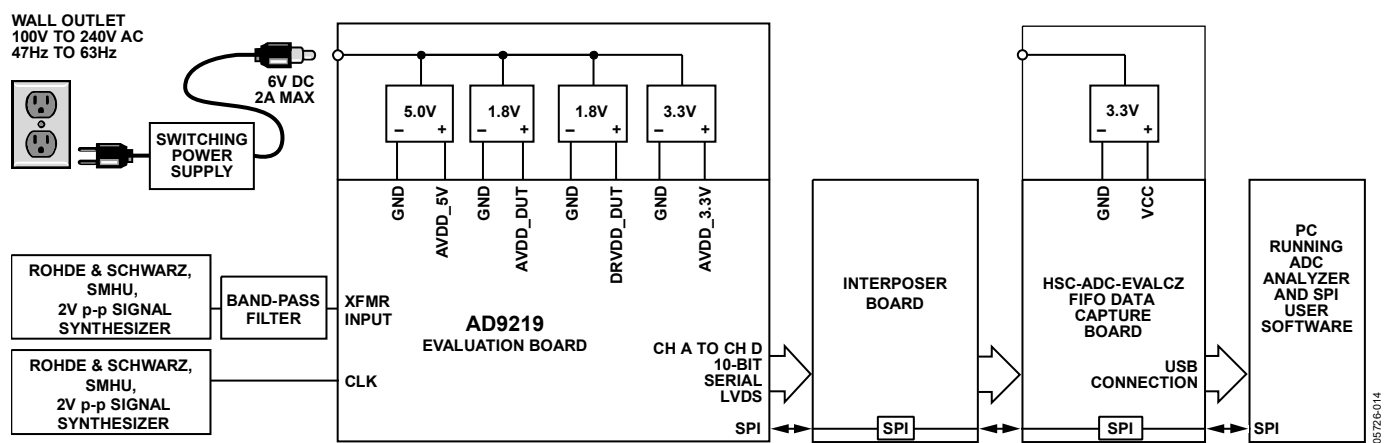
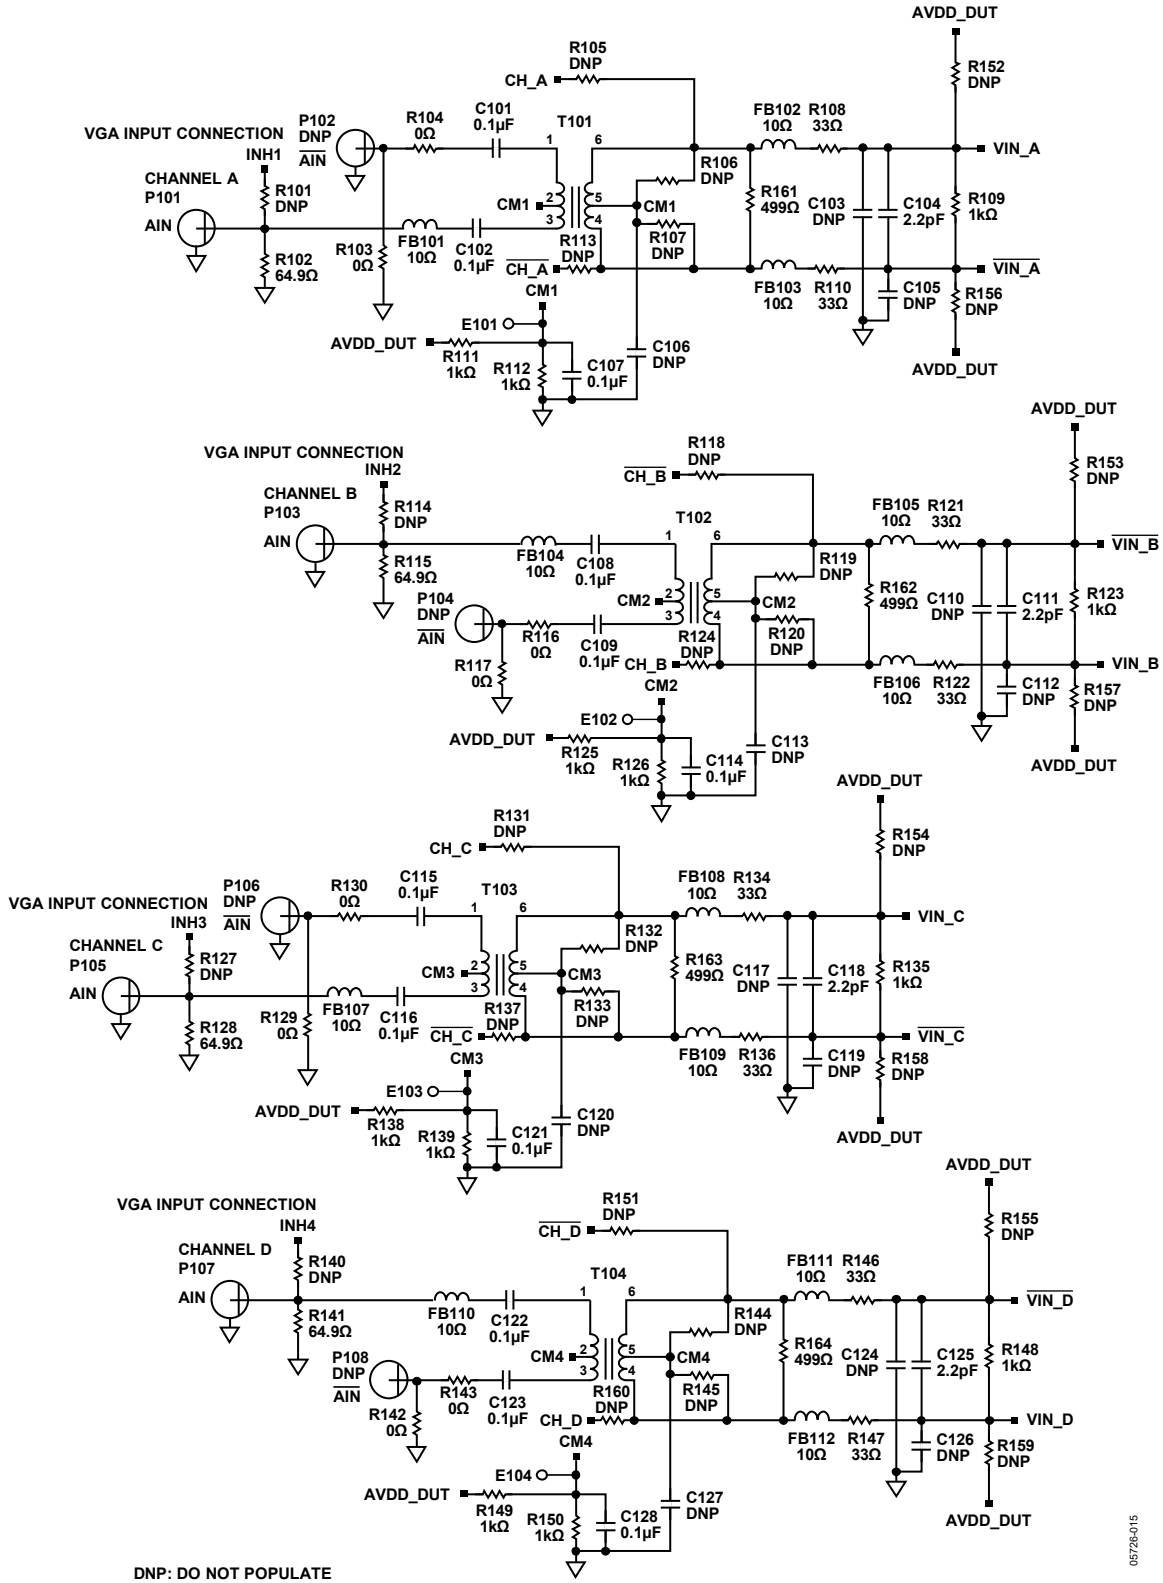
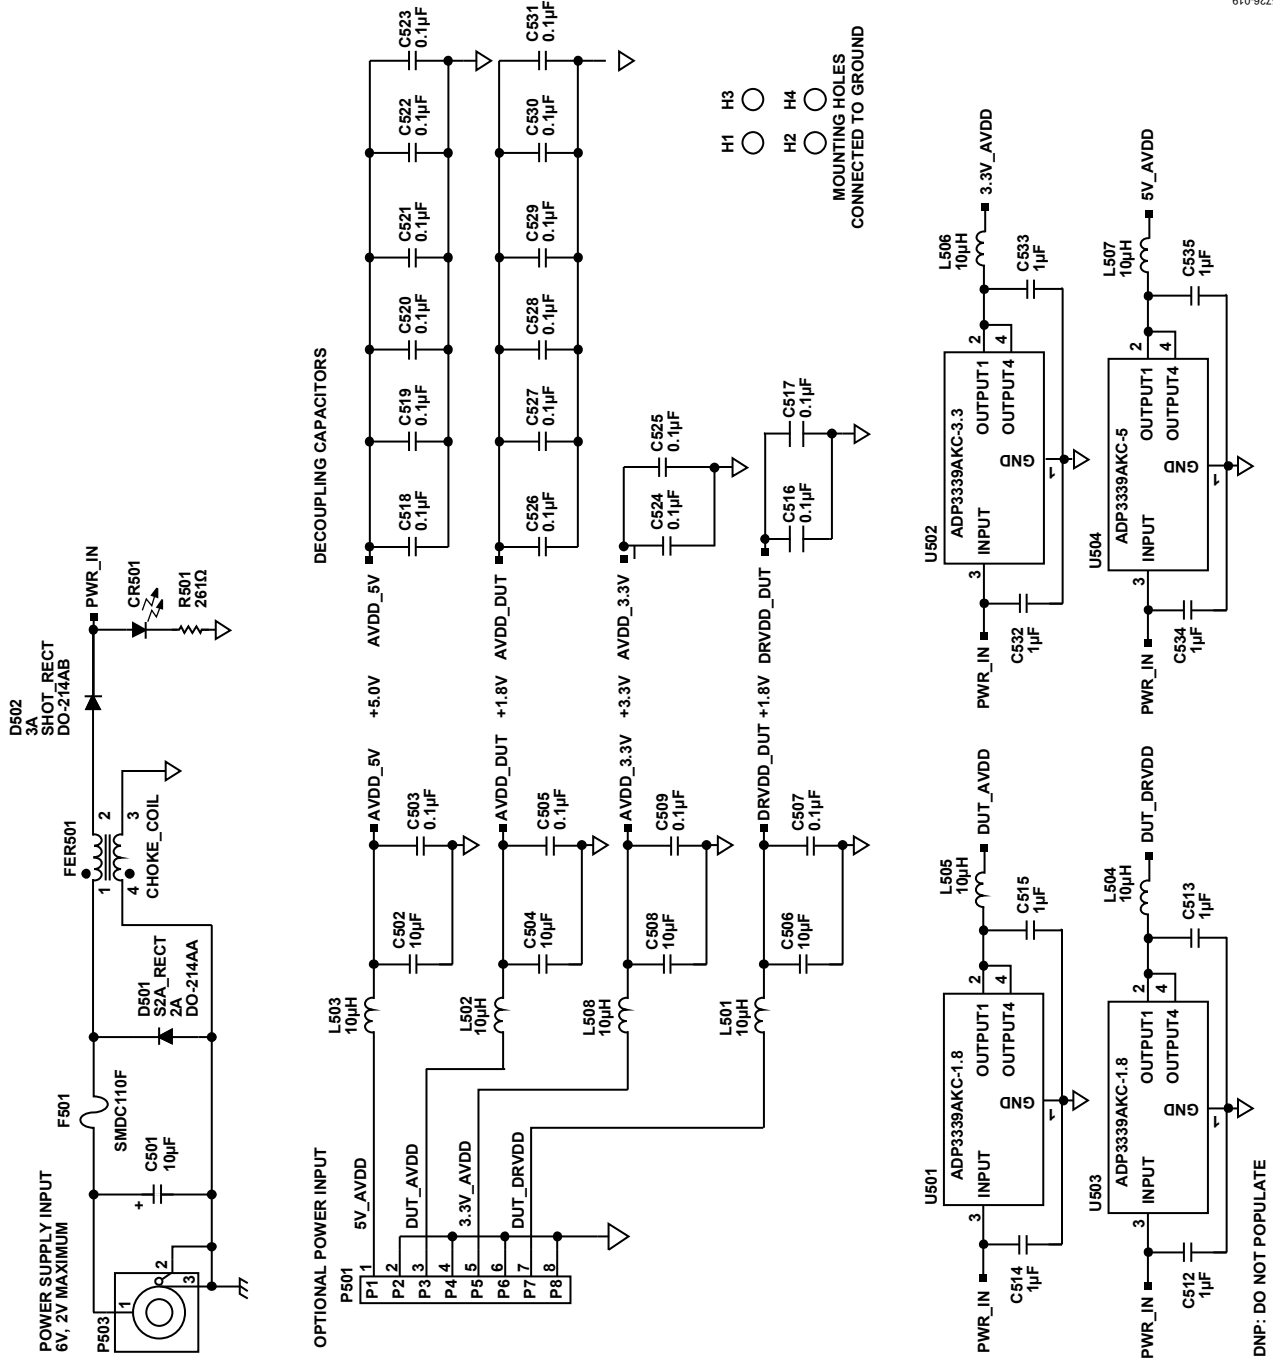
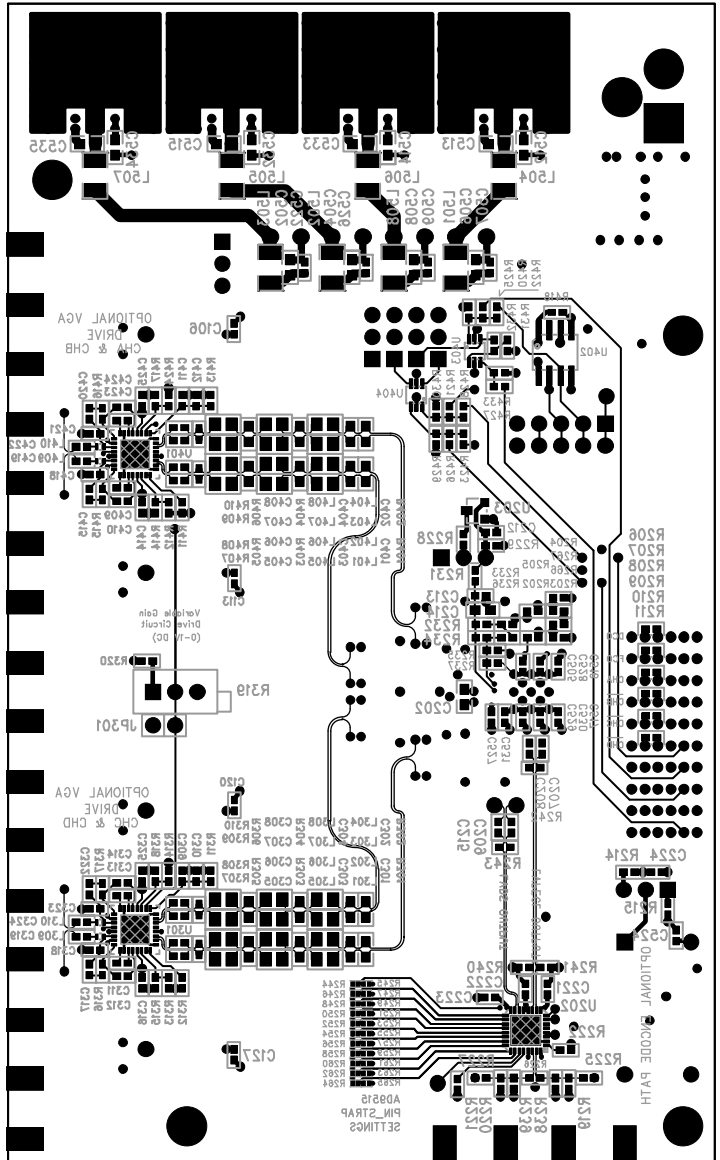

Figure 71. Evaluation Board Connection
Figure 73. Evaluation Board Schematic, DUT Analog Inputs
Figure 77. Evaluation Board Schematic, Power Supply Inputs
Figure 81. Evaluation Board Layout, Secondary Side (Mirrored Image)
The AD9219 evaluation board provides all of the support circuitry required to operate the ADC in its various modes and configurations. The converter can be driven differentially using a transformer (default) or an AD8332 driver. The ADC can also be driven in a single-ended fashion. Separate power pins are provided to isolate the DUT from the drive circuitry of the AD8332. Each input configuration can be selected by changing the connection of various jumpers (see Figure 73 to Figure 77). Figure 71 shows the typical bench characterization setup used to evaluate the ac performance of the AD9219. It is critical that the signal sources used for the analog input and clock have very low phase noise (<1 ps rms jitter) to realize the optimum performance of the converter. Proper filtering of the analog input signal to remove harmonics and lower the integrated or broadband noise at the input is also necessary to achieve the specified noise performance.
See Figure 73 to Figure 81 for the complete schematics and layout diagrams demonstrating the routing and grounding techniques that must be applied at the system level.
- **D + x, D - x:** If an alternative data capture method to the setup shown in Figure 73 is used, optional receiver terminations, R206 to R211, can be installed next to the high speed backplane connector.